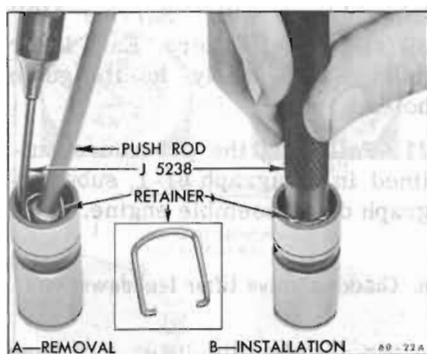

Figure 60-116—Plunger Retainer
the plunger retainer from the lifter body using Retainer Remover J-5238. See Figure 60-116, View A. Remove push rod seat and plunger from lifter body.
17. Rinse push rod seat and plunger retainer, place these parts in end of body and depress with handle of Remover J-5238 until retainer engages groove in body. See Figure 60-116.